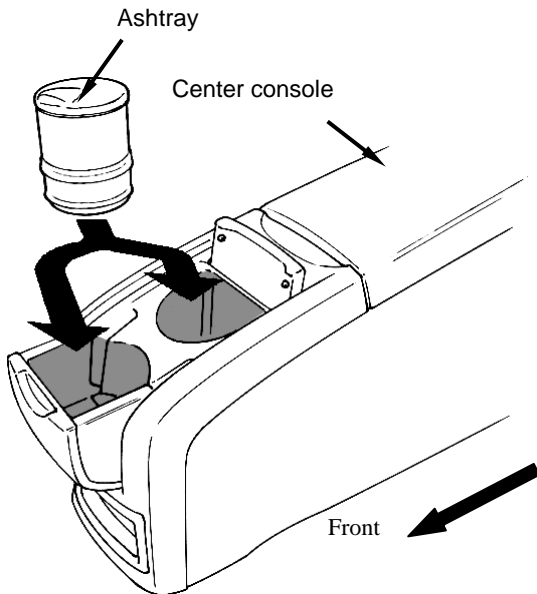

Fig. 1-1
- (a) Insert the ashtray into the front cup holder of the center console. (Fig. 1-1)